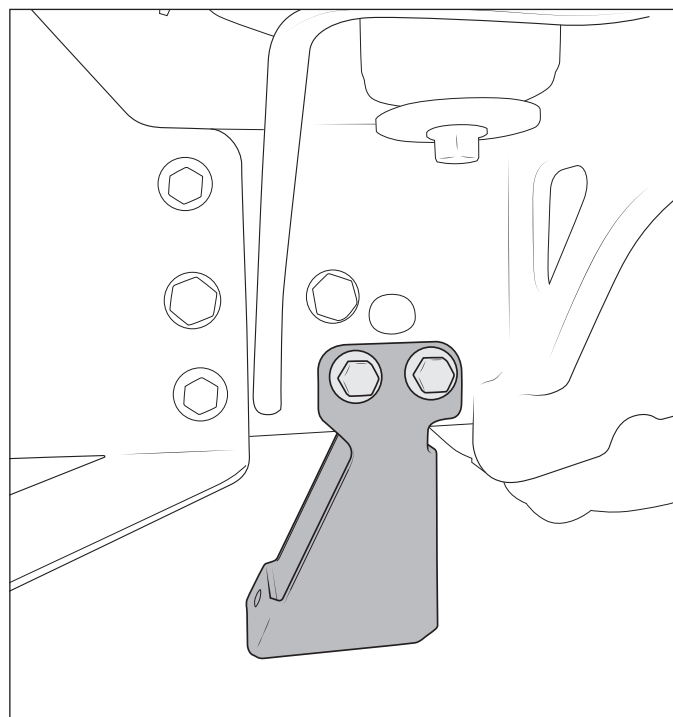

Figure 4
1. Loosely install the two AEV brackets using either the factory hardware saved in step one, or the AEV supplemental hardware kit PN: 110602112AA (fig. 4).